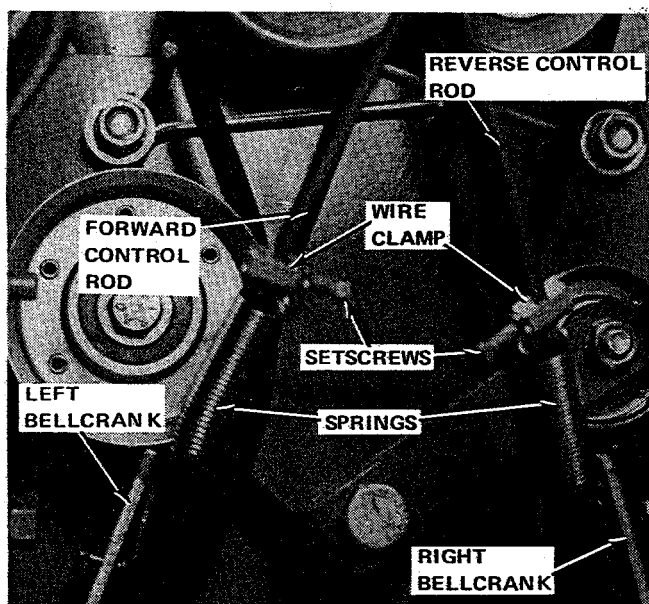
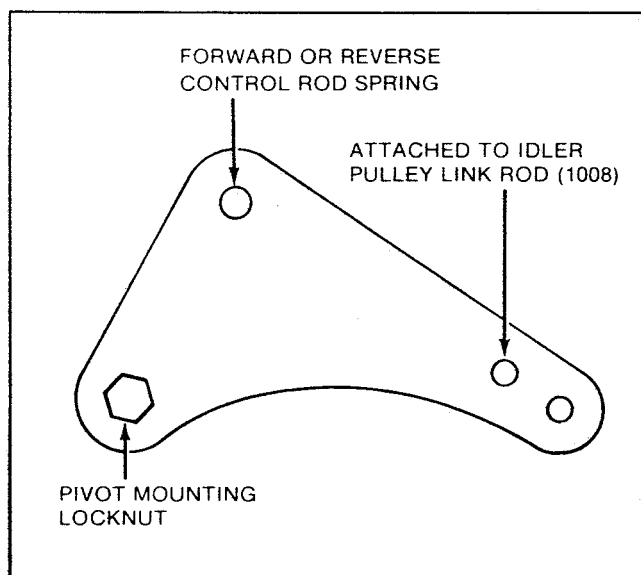

Figure 21. Connecting Control Rods
Figure 24. Early Style Bellcrank
2. Insert hook end of one of the springs provided into the left bellcrank shown in figure 21. There are two different styles of bellcranks. For proper connections, see figure 24 or 25.
3. Start setscrew into wire clamp and slip clamp onto forward control rod (see figure 21).
4. Feed end of rod into spring as shown in figure 21, and hook eyelet end of spring over the setscrew.
7. Insert hook of remaining spring into right bellcrank shown in figure 21. For connections, see figure 24 or 25.
8. Start setscrew in remaining wire clamp and slip clamp onto the reverse control rod (see figure 21).
9. Feed end of rod into spring as shown in figure 21, and hook eyelet end of the spring over setscrew.